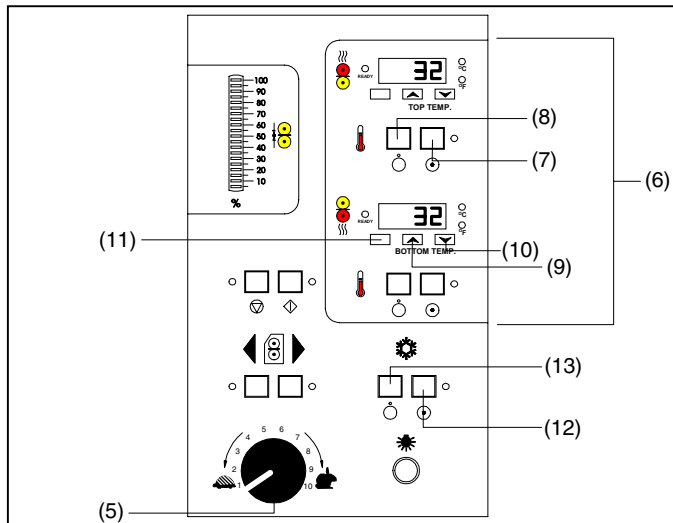

Fig. 8
For items 5 -13, refer to Figure 8.